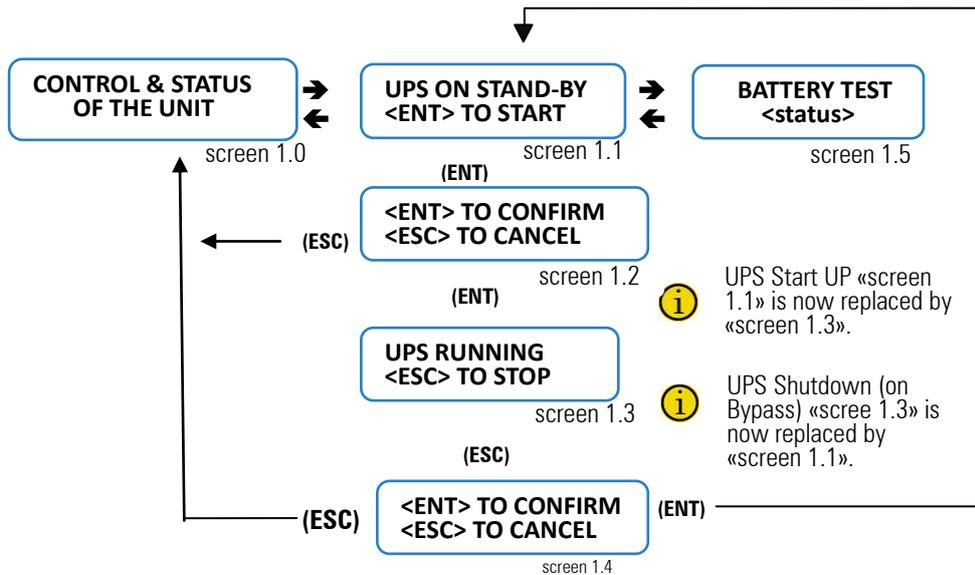
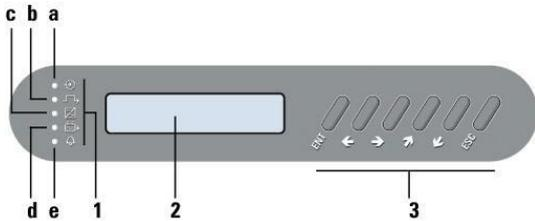

Fig.25. Procedure start-up / shutdown.
Fig.26. LED indications control panel (PC)
At this point, with no alarm active, green LED indications of Input Voltage OK, and orange LED indication of Unit on Bypass should light ((a), (b) from Fig. 26).
Start up the inverter. The start up operation will be done through the keypad of the control panel ((3) from Fig. 26). Go down to «CONTROL & STATUS OF THE UNIT» submenu (screen 1.0), and then right only once. You will get to screen 1.1, asking you to start the unit up by pressing (ENT). Do so, and then confirm operation by pressing (ENT) again. See following screen diagram (Fig. 25).
- Before continuing, be sure that the LED indication (c) Inverter is working is lit (green), and (b) Unit on Bypass is turned OFF (see Fig. 26). Otherwise please contact with the S.T.S. (Service and Technical Support).
- Shutdown the inverter. Through the keypad of the control panel ((3) from Fig. 26), go down to "CONTROL & STATUS OF THE UNIT" submenu (screen 1.0), and then right only once. You will get to screen 1.3, asking you to shutdown the unit by pressing (**ESC**). Do so, and then confirm operation by pressing (**ENT**), see Fig 25.
- Shutdown the inverter. Through the keypad of the control panel ((3) from Fig. 26), go down to "CONTROL & STATUS OF THE UNIT" submenu (screen 1.0), and then right only once. You will get to screen 1.3, asking you to shutdown the unit by pressing (ESC). Do so, and then confirm operation by pressing (ENT), see Fig 25.
- Remove the screws to that fixes the mechanical block (BL).
- Remove the mechanical block (BL) of the manual bypass switch (Q5) and set it to «On» position.
- Start up the inverter. The start up operation will be done through the keypad of the control panel ((3) from Fig. 26). Go down to «CONTROL & STATUS OF THE UNIT» submenu (screen 1.0), and then right only once. You will get to screen 1.1, asking you to start the unit up by pressing (ENT). Do so, and then confirm operation by pressing (ENT) again. See following screen diagram (Fig. 25).